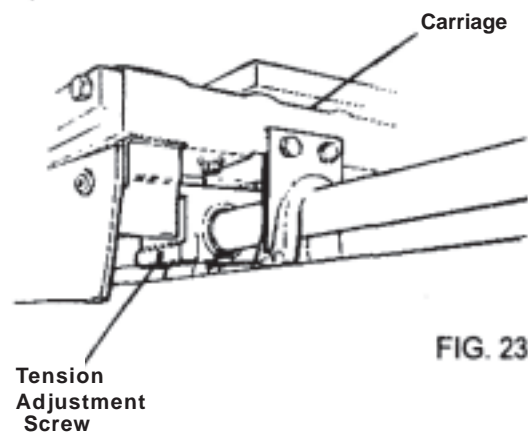
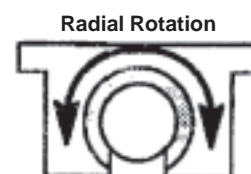

FIG. 23
FIG. 24
6. Adjust the tension screw (FIG. 23) on the side of each bearing block so that when you radially rotate the pillow block around the carriage (See FIG. 24) rail there is no free play between the bearing and rail. You should feel a strong drag.
7. Attach the three linear bearing pillow blocks and wiper brackets loosely to the bottom of the carriage, with their tension adjustment screws (FIG. 23) facing outward.